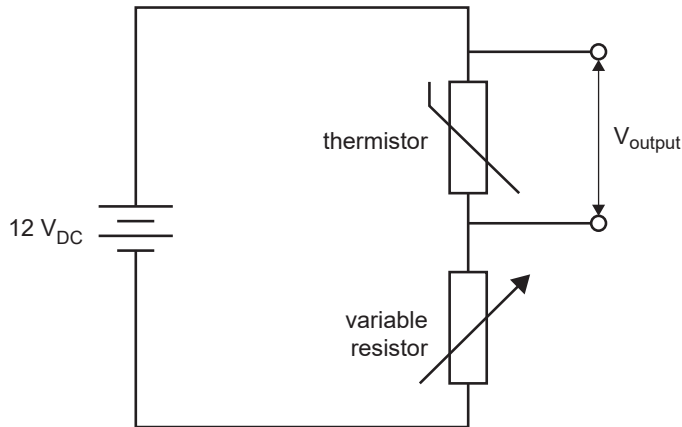

Figure 5
The cooling unit of a small refrigerator is controlled by a thermistor using the circuit shown in Figure 5.
- b. On Figure 5, indicate where an ammeter should be located to measure the current flowing through the thermistor. 1 mark